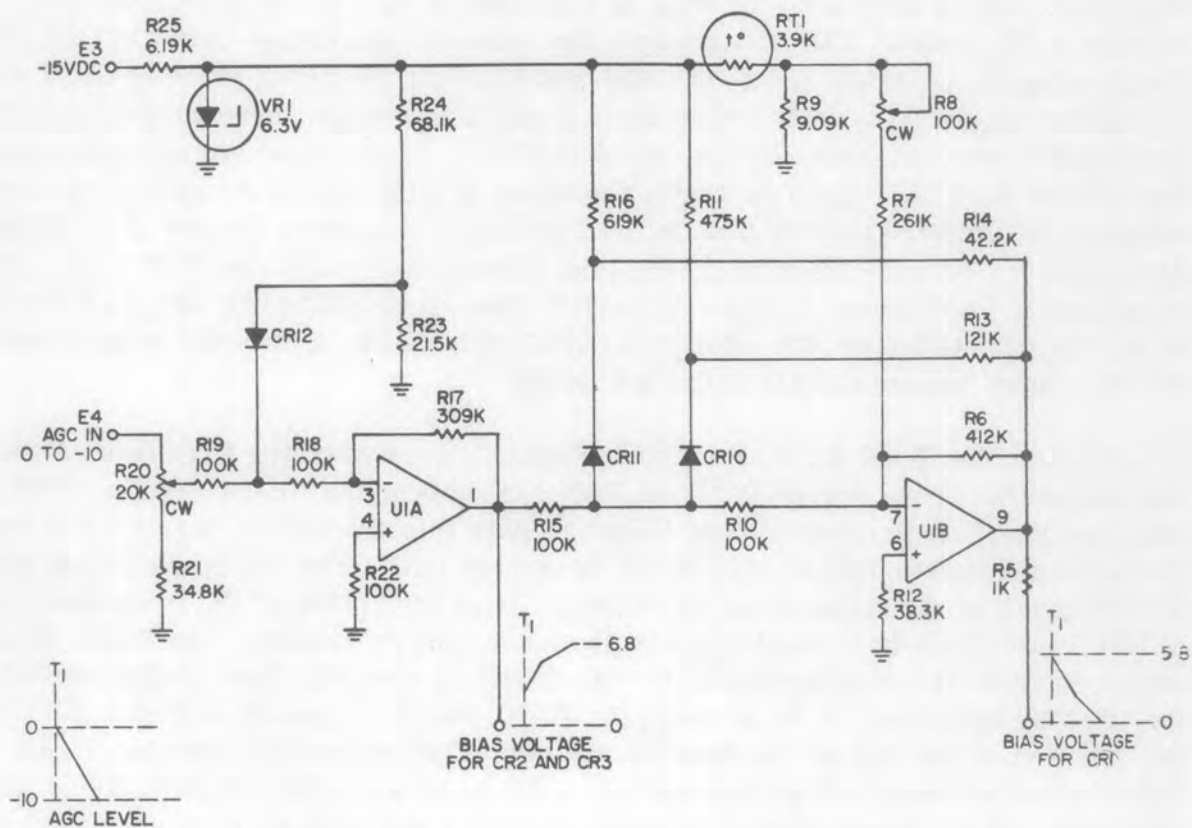

Figure 3-3. Pin Diode Attenuator Shaping Circuit Simplified
3.3.1.1.1 The Pin Diode Attenuator Shaping Circuit is located on the Pin Diode Attenuator subassembly. Since the RF resistance vs. forward bias current relationship of a pin diode is non-linear it is necessary to shape the AGC voltage to the Pin Diode Attenuator. As can be seen from the simplified schematic diagram (Figure 3-3), circuits on this board can be conveniently divided into two stages, U1A and U1B. U1A and U1B and their associated circuitry convert the single AGC voltage into two shaped
an output voltage curve at U1A pin 1 similar to that shown in Figure 3-3 as "bias voltage for CR2 and CR3." Therefore, as AGC voltage goes negative due to increased RF signal strength, so the output of U1A follows a positive going curve forward biasing CR2 and CR3 in the Pin Diode Attenuator, thereby shunting some of the RF signal to ground. Stage U1B receives the shaped voltage from the output of U1A. If diodes CR10 and CR11 were not in the circuit, the output from U1B would be a negative-going voltage having a single break point from the effect of CR12. CR10 and CR11 however, produce two additional break points in the output signal at U1B pin 9 shown in Figure 3-3 as "bias voltage for CR1." When the input voltage to R15 rests at zero volts, the inverting input of U1B is biased slightly negative through R7, so that the output is at +5.8 volts. With +5.8 volts at the output of U1B, the cathode of CR10 is biased at about +3.35 volts, and the cathode of CR11 is biased at +5.0 volts. Under this condition the two diodes are reverse biased and therefore block the two parallel feedback circuits through R13 and R14 from U1B pin 9 to U1B pin 7. As the input voltage to R15 moves from zero volts towards +5.8 volts, the output of U1B moves from +5.8 volts towards zero volts. In doing so, first CR10 and then CR11 becomes forward biased. This effect places first R13 and then R14 in parallel with feedback resistor R6. This decreases the gain of U1B and reduces the slope of the output curve at U1B pin 9. Combined with the break points of CR10 and CR11 is the break point of CR12 in the preceding stage, U1A. The effect of the diodes is a voltage curve consisting of three break points and four slopes at the output of U1B. As the AGC voltage goes negative due to increasing RF signal strength, the output of U1B follows a negative going curve reducing the forward bias on CR1 in the Pin Diode Attenuator, thereby attenuating the RF signal. The non-linearity in the bias signals from U1A and U1B are designed to produce a linear result to the relationship between pin diode bias and its RF resistance. The potentiometer R20 adjusts the AGC gain and R8 adjusts the balance between the two shaped voltage signals to the pin diodes.